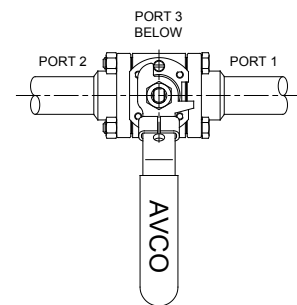

Fig. 3
5.2.1 For valve sizes up to 2" inclusive the lever has an integral stop to give full port 1 flow (port 2 has no flow), or full port 2 flow (port 1 has no flow), port 3 is always flowing. There is also a sliding lockable tab to prevent accidental or unauthorized operation of the valve. To operate, the lockable tab should be slid upwards and the lever rotated in the required direction. The tab can then be released to slide down and locate in its slot. The lever can only be correctly installed in one position. Rotating the lever clockwise increases flow to port 2 and counter-clockwise increase flow to port 1. Mixing can be achieved by setting the valve lever at a position somewhere between full rotation (see fig. 3).
5.2.3 The handle or lever on all valve sizes gives visual indication as to which port is flowing as shown in fig. 3.
5.3.3 The handle or lever on all valve sizes gives visual indication as to which port is flowing as shown in fig. 3.